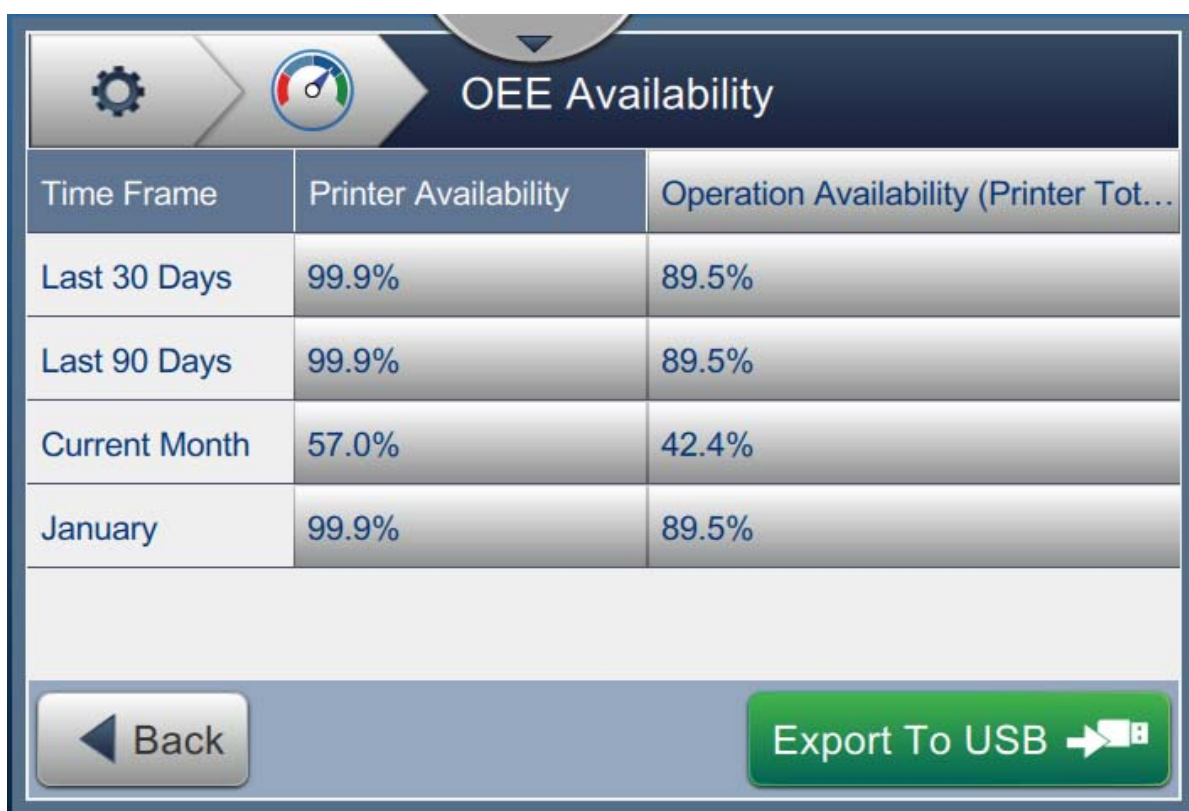

Figure 6-37: Performance - OEE Availability
2. Printer Availability and Operation Availability data is displayed with the time frame for printer total time as shown in Figure 6-37.